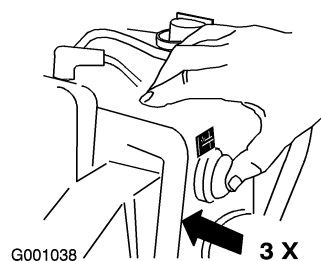

Figure 24
6. Firmly push in the primer 3 times with your thumb, holding the primer in for a second before releasing it each time (Figure 24).